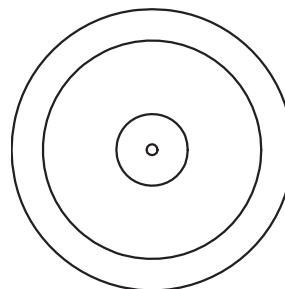

Fig. 17-8
2. Draw a wheel similar to the one shown in Fig. 17-8. Make the wheel large enough to fill most of the screen. Use the **Center** object snap to make the circles concentric.